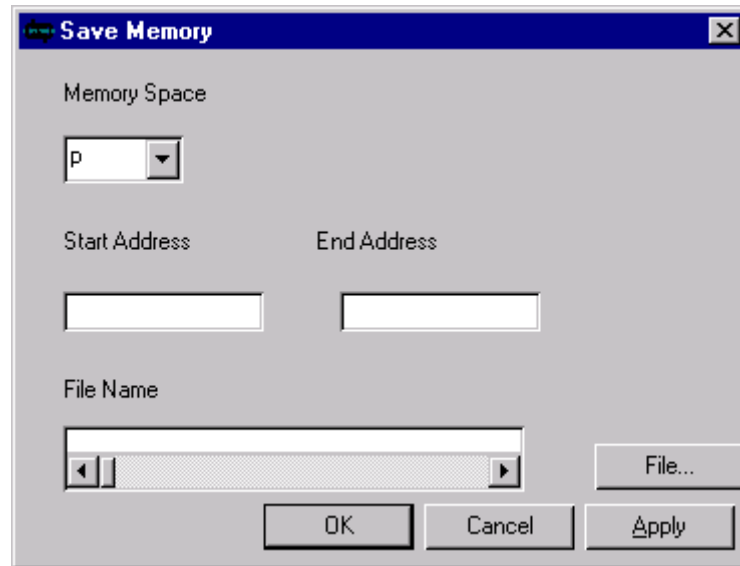

Figure 4-3. Saving a COFF (.cld) File
1. From the **File** menu choose **Save**, then select **Memory COFF**. The dialog box in Figure 4-3 appears.